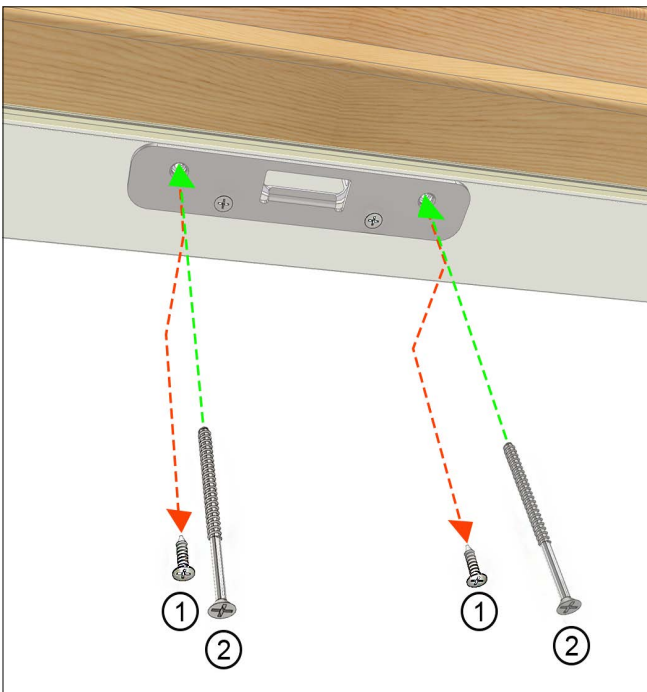

Figure 7
4. On OX/XO configurations replace one head jamb strike plate screw with one #8 x 2-1/2" stainless steel screw. See Figure 7. On XX replace two screws 2-1/2" stainless steel screws. On OXO units replace each of the two most accessible head jamb strike screws with one 2-1/2" stainless steel screws.